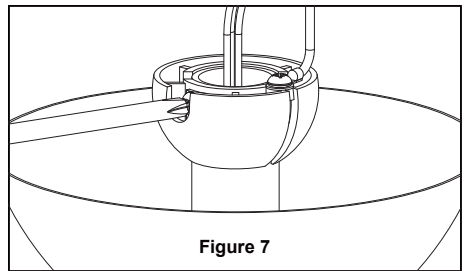

Figure 7
7. Reinstall the hanger ball on the downrod as follows. Route the brown, blue, red, gray and yellow wires through the hanger ball. Position the pin through the two holes in the downrod and align the hanger ball so the pin is captured in the groove in the top of the hanger ball. Pull the hanger ball up tight against the pin. Securely tighten the set screw in the hanger ball. A loose set screw could create fan wobble. (Figure 7)